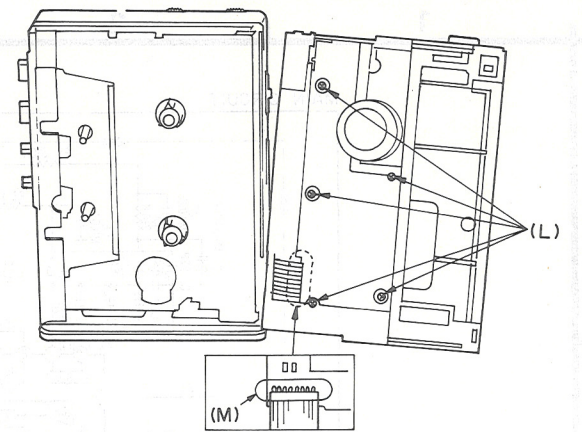

Fig. 6
5. Remove the screw (L) (1.4×2.5)mm×5. (Fig. 6)
6. Remove the solder (M) from flexible PC board. (Fig. 6)